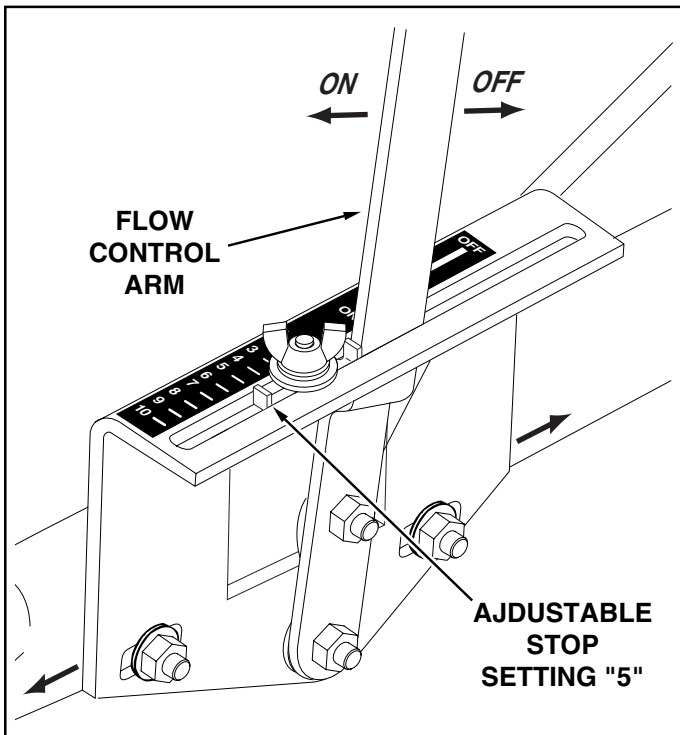

FIGURE 12
20. Position the flow control mounting bracket (figure 12).
(Refer to figure 12 on page 7.)